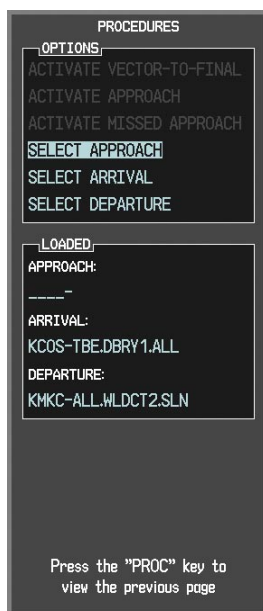

Figure 5-119 Procedures Window
b) 'SELECT APPROACH' should be highlighted as shown in Figure 5-119.